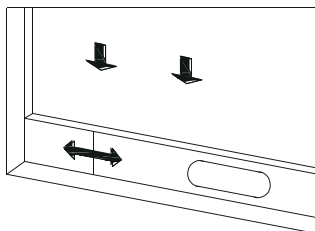
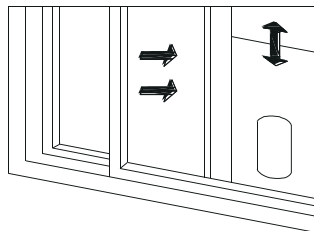

Figure 2
Figure 3
- 1) Half open the window, and mount the window sealing plate assembly to the window (as shown in Fig.2 and Fig.3). Components can be placed in horizontal and vertical direction.